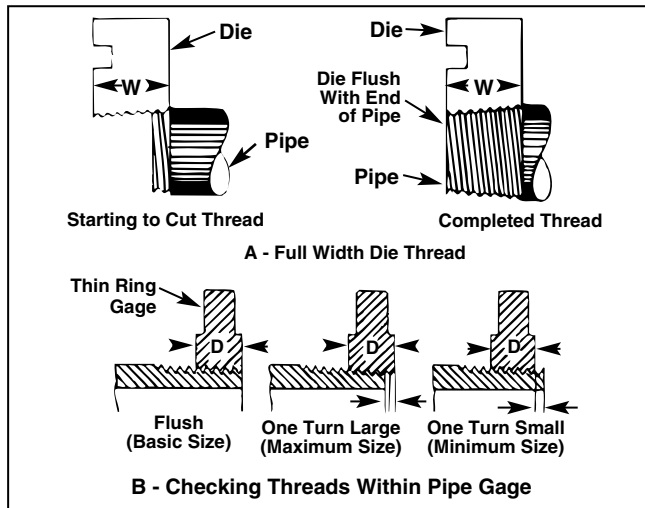

Figure 14 – Checking Thread Length
13. Check the thread for length and depth (*Figure 14*).